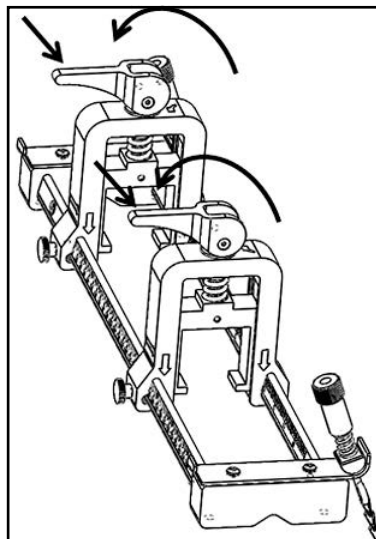

Figure 22: Released Cams
- Release the cams on both transducer clamps so that the transducers are pushed towards the pipe to ensure that the couplant completely fills the gaps between the transducer faces and the pipe surface (see *Figure 22* below).